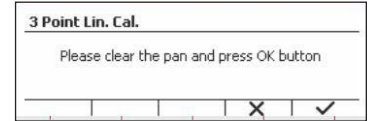

Figure 16
- Press the softkey corresponding to the ✓ icon to initiate Linearity Calibration. (See Figure 16)